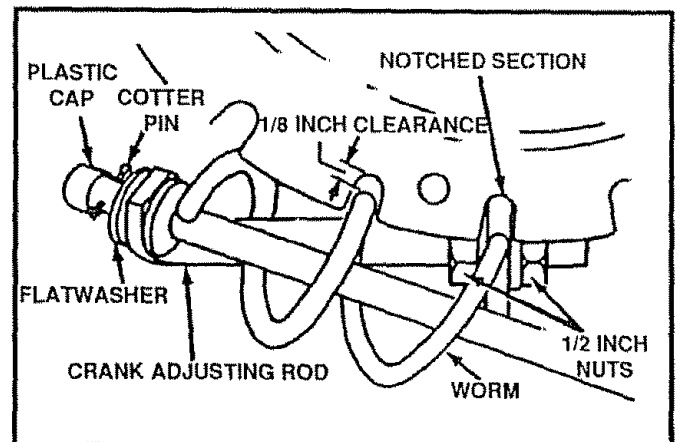

FIG. 24
If you cannot rotate the chute crank fully to the left and to the right, you need to adjust the chute crank (See Fig. 24).
- Remove plastic cap, cotter pin and washer from the wormed end of crank assembly (See Fig. 24).